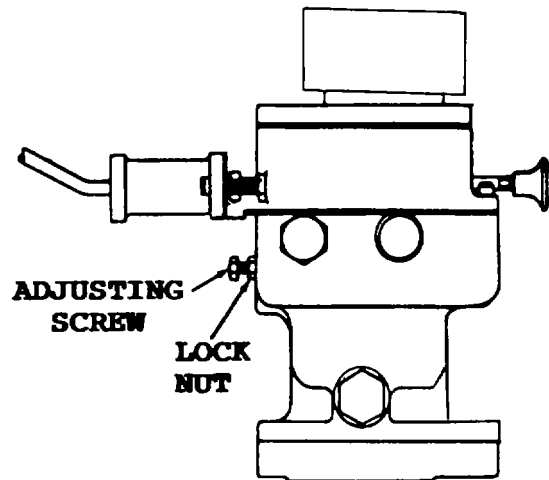

Figure 3-24. Adjusting Maximum No-Load Speed.
- (6) Loosen the locknut and back off the maximum speed adjusting screw approximately 5/8 inch (figure 3-24).
- (8) With the throttle in the run position, adjust the engine speed until the engine is operating at 5% above the recommended full load speed.
- (9) Apply the full rated load on the engine and readjust the engine speed to the correct full-load speed.
- (10) Remove the rated load and note the engine speed after the speed has stabilized under no load. If the speed droop is correct, the engine speed will be approximately 5% higher than the full-load speed.
- (11) Loosen the maximum speed adjusting screw locknut and back the adjusting screw out three times.
- (12) With the engine operating at no load, adjust the engine speed until the engine is operating approximately 8% higher than the rated full-load speed.
- (13) Turn the maximum speed adjusting screw in lightly until contact is felt with the linkage in the governor (figure 3-24).
- (14) Hold the adjusting screw and tighten the locknut.
- (15) Install the governor cover.